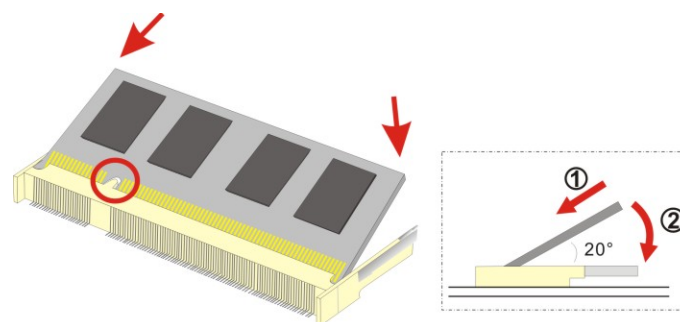

Figure 5-1: SO-DIMM Installation
To install a SO-DIMM into a SO-DIMM socket, please follow the steps below and refer to **Figure 5-1**.
- Step 3:** **Insert the SO-DIMM.** Push the SO-DIMM chip into the socket at an angle. (See **Figure 5-1**)
- Step 4:** **Open the SO-DIMM socket arms.** Gently pull the arms of the SO-DIMM socket out and push the rear of the SO-DIMM down. (See **Figure 5-1**)